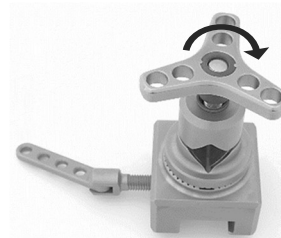

Fig. 4
Place the star grip (1) on the thread of the base (4) as shown in Figure 4 and tighten clockwise.